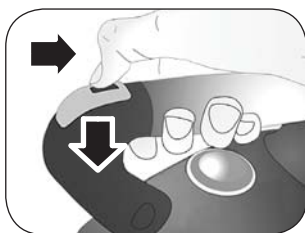

Fig. 6
- 1 Turn the steam adjustment knob (K) to "+" mark.
- 2 Set the ironing temperature by turning the adjustment knob (F) past the symbol (●●●).
- 3 Wait for the indicator lamp (C) of the iron to turn off.
- 4 Wait for the steam ready light (M) to turn on.
- 5 Press the steam button (D). Move the cursor (E) towards the handle (Fig 6). The cursor (E) will lock the button, making the jet of steam exit continuously and steadily.